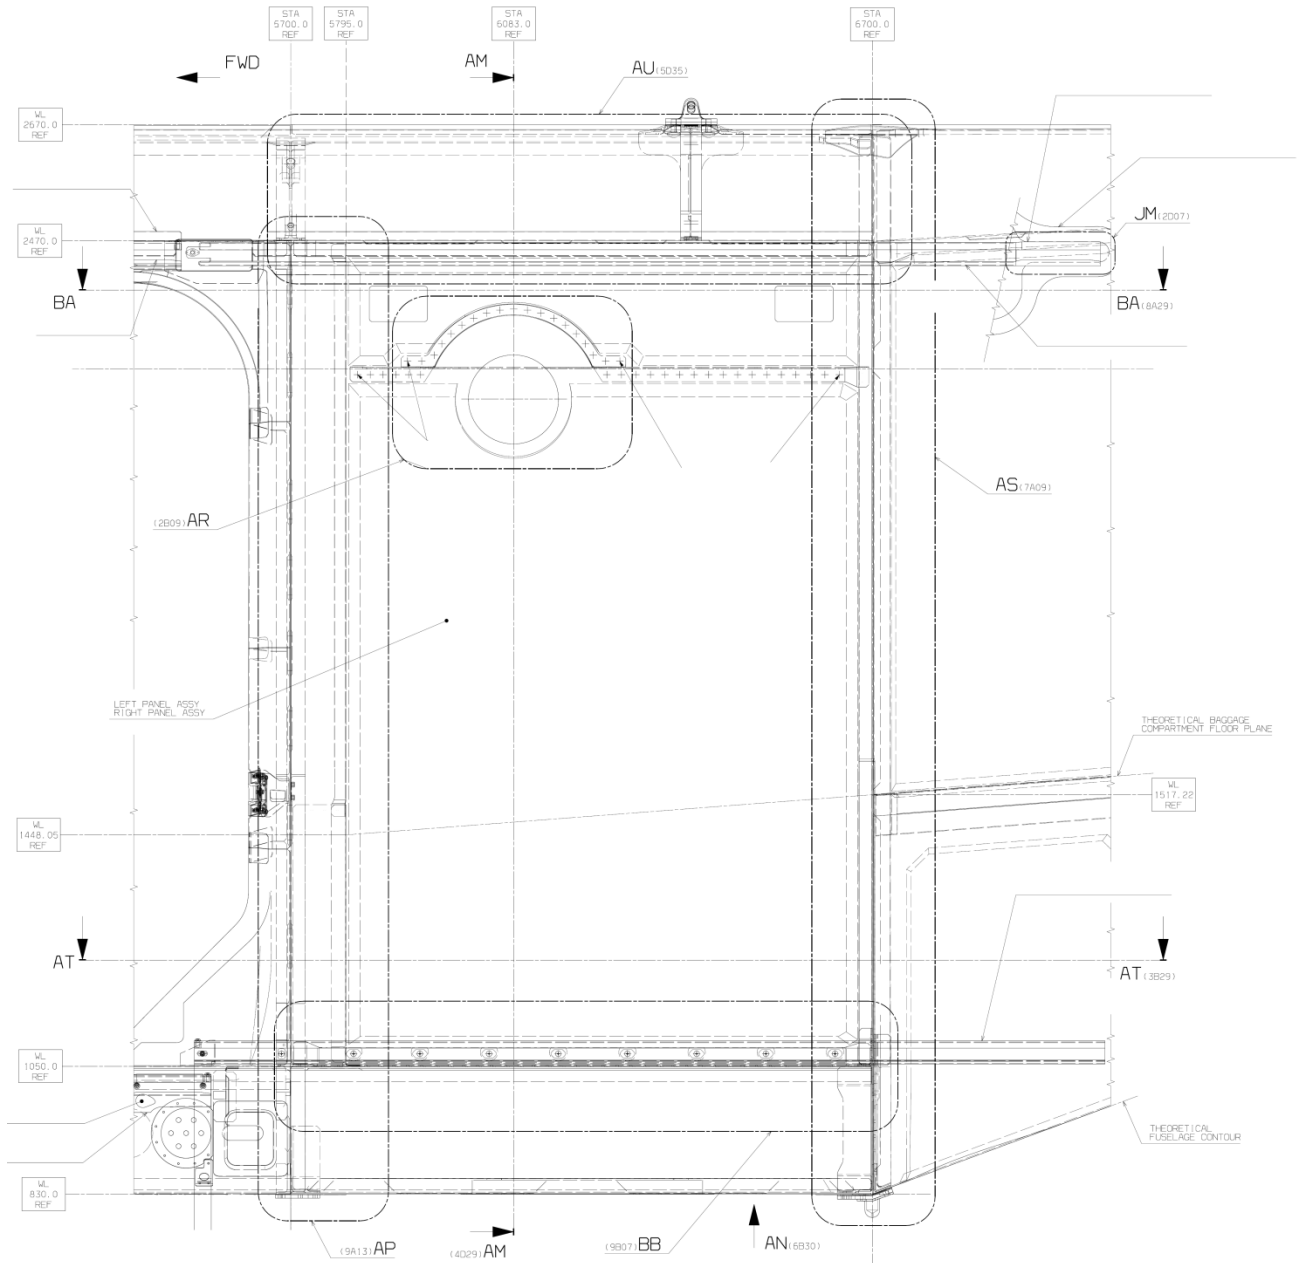

Figure 20
- 51.2. If you performed step 17.2, install cabin door LH upper frame (refers to figures from Figure 20 up to Figure 57)
Rivet List related to Figure from Figure 20 to Figure 35